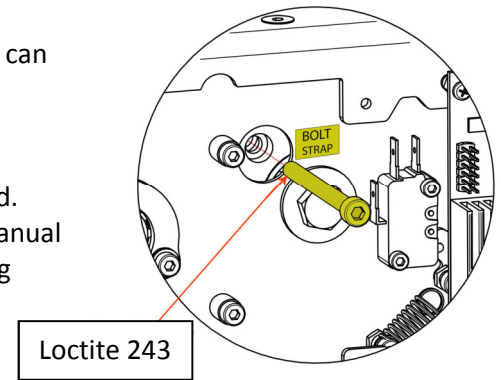

Figure 7, bolt mount Lifting Tape
12. Push the loop through the bolt recess and apply **Loctite 243** (*Figure 7*) on the top thread of the bolt, push it through the loop and tighten it.